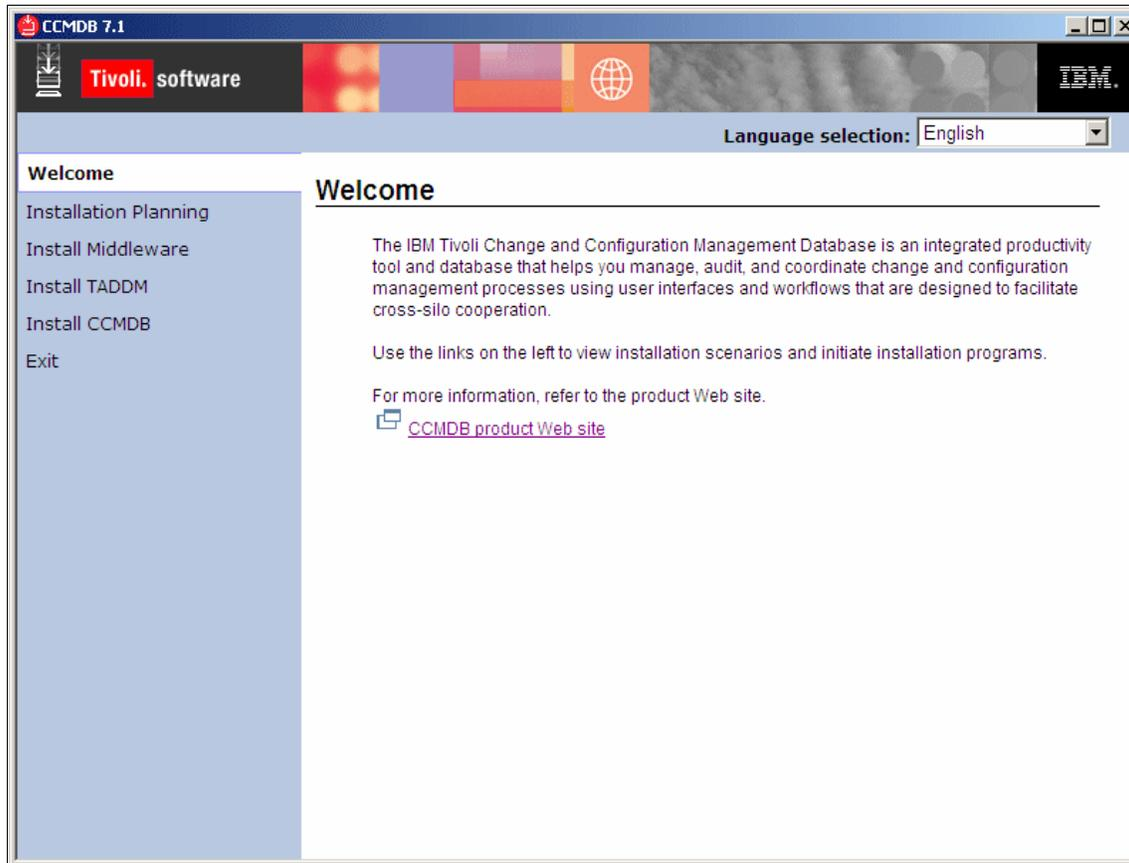

Figure 6-1 CCMDB Welcome window
1. The installation procedure starts from the launchpad, similar to the Tivoli SRM launchpad, as shown in Figure 6-1 on page 191.